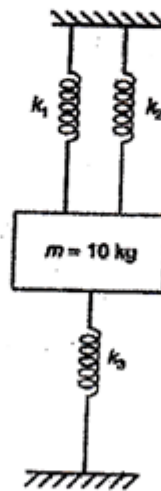

Figure 2.13
**EXAMPLE 2.7** Find the natural frequency of the system as shown in Figure 2.13. Take  $k_1 = k_2 = 2000 \text{ N/m}$ ,  $k_3 = 3000 \text{ N/m}$  and  $m = 10 \text{ kg}$ .